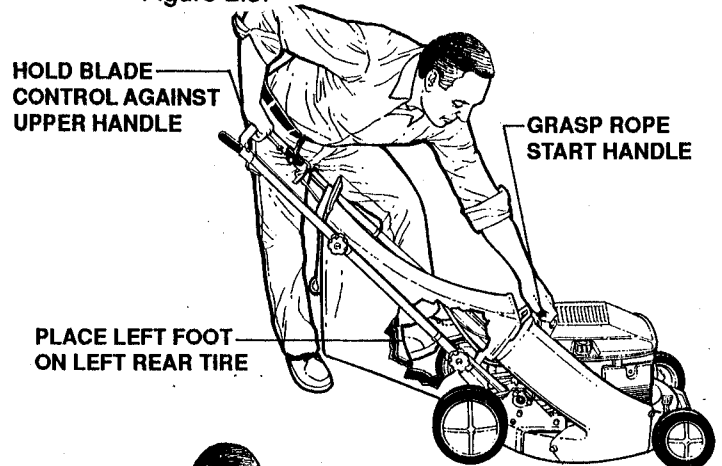

FIGURE 2.3
- 5. Bend at waist to reach start rope handle. See Figure 2.3.